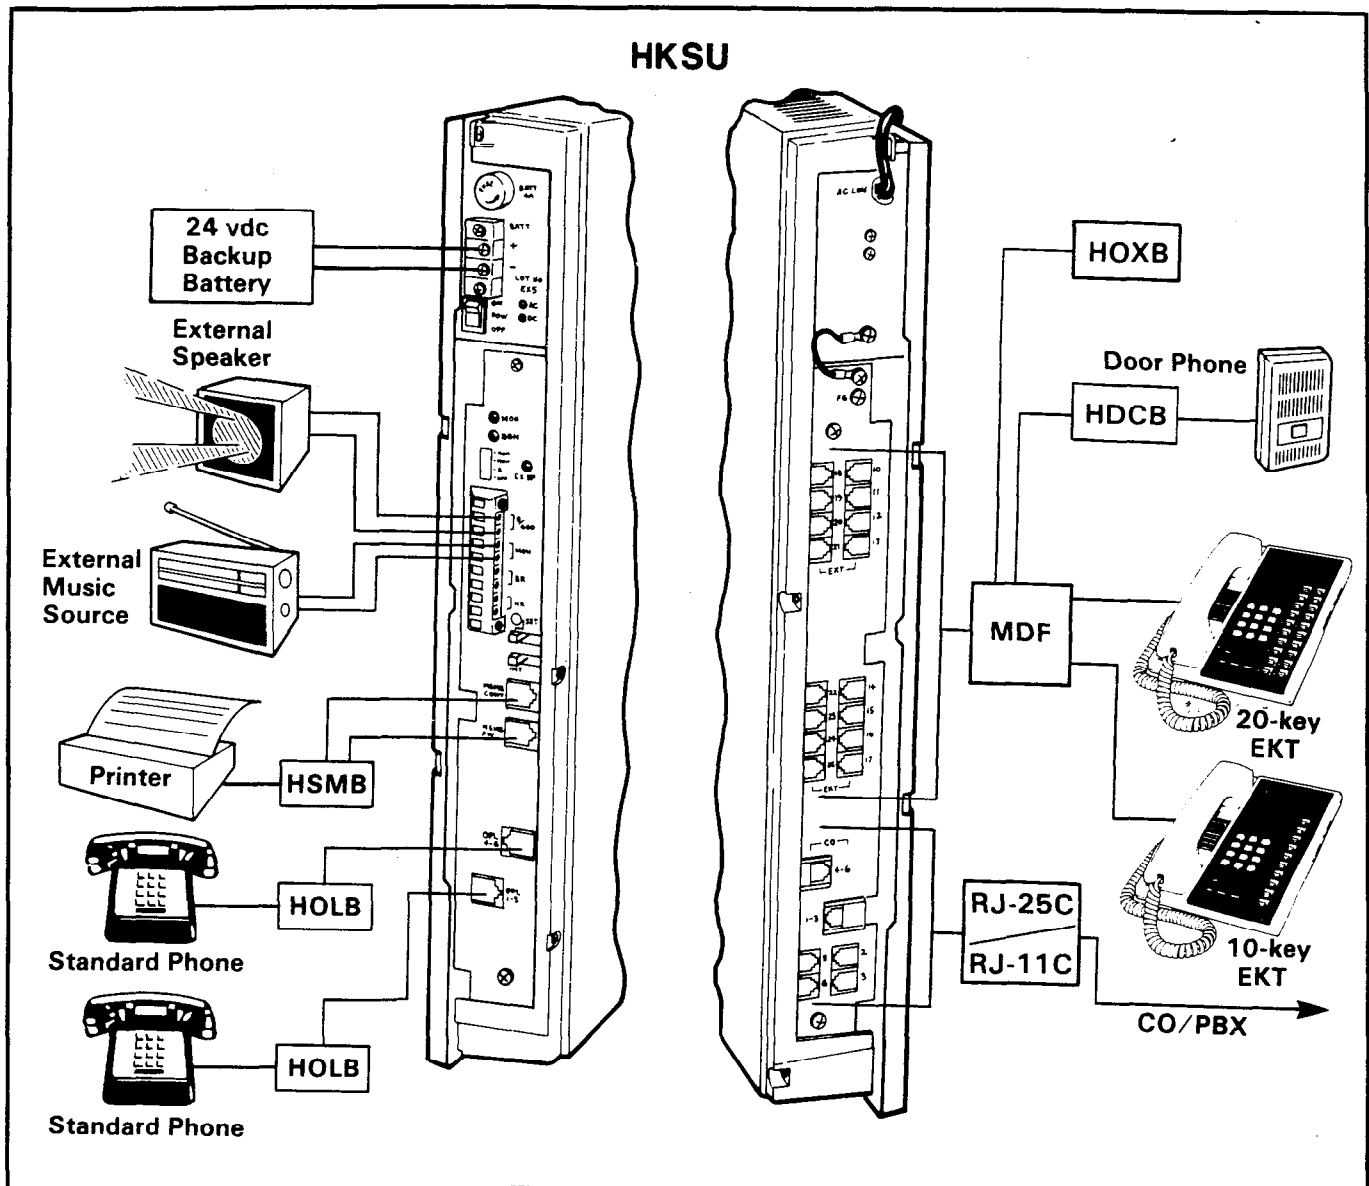

FIGURE 14—SYSTEM DIAGRAM
06.01 Station cables are modular from the right side panel to the MDF block as shown in Figure 14.